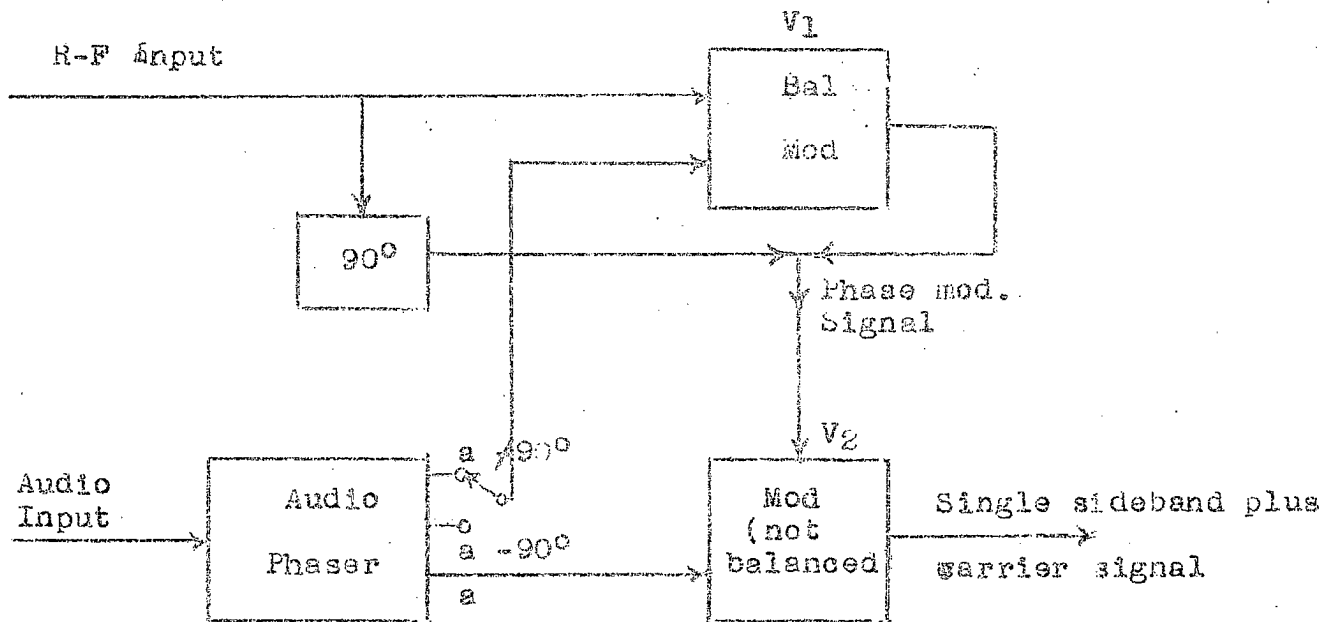

Figure 2. Variation of Phase Shift System of Single Sideband Generation.
Vectors showing various components arising in the process of phase modulation (V1) and amplitude modulation (V2) are shown in Figure 3. The signal at the input to the limiter of Figure 2 is made up of the carrier plus upper p-m (6) and lower p-m (5) components. The resultant scalar magnitude is greater than the value when modulation is not present. This magnitude varies during the modulation cycle, the result being amplitude modulation at twice the modulating frequency. While this amplitude modulation is chiefly second harmonic, small amounts of other even harmonics also are present. Now as this wave is passed through a limiter stage, which removes any amplitude modulation present, the scalar magnitude of the carrier will remain constant. This means that additional sidebands (components 6, 7, and some others not shown) have been created to cancel the amplitude component. Limiting is not essential to the creation of single sideband signals and the limiter could be left out of Figure 2. However, limiting will occur when passing a signal through class C amplifier stages, therefore an accurate representation of the system must incorporate the limiter.